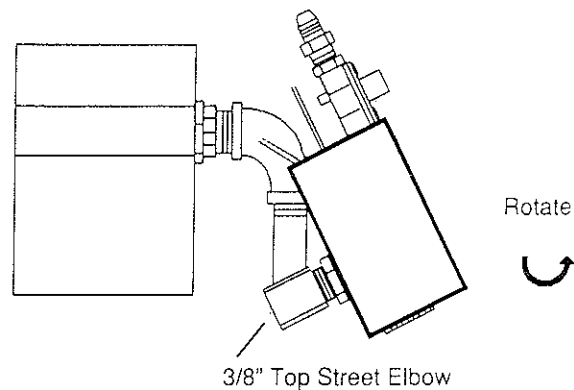

Figure 7
10. The valve assembly could be rotated to better conceal the controls. Simply rotate the entire valve assembly by turning the top 3/8" Street Elbow with a wrench. (See Figure 7.)